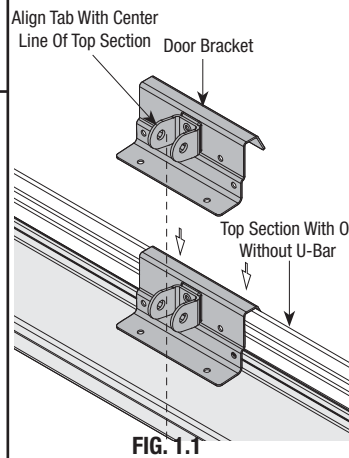
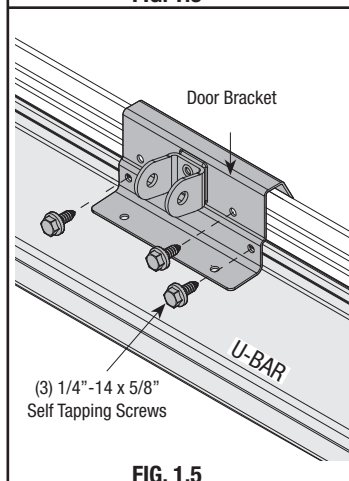
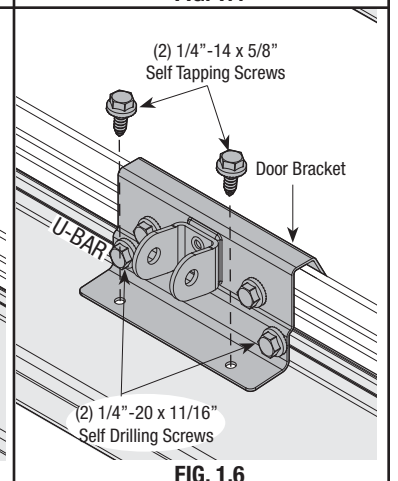

FIG. 1.1
FIG. 1.5
FIG. 1.6
Locate the center of the top section and seat the door bracket on male part of the top section. The door bracket must be centered and positioned on top section so it bridges the transition point of the section thickness, as shown in FIG. 1.1 and 1.2. Install (2) #12 x 1/2" phillips head screws on the opposite side of door bracket, as shown in FIG. 1.3. If initially supplied u-bar is on the door, clamp door bracket to u-bar, as shown in FIG. 1.4. First attach (3) 1/4" - 14 x 5/8" self-tapping screws to the door bracket, as shown in FIG. 1.5. Then attach (2) 1/4" - 14 x 5/8" self-tapping screws to the door bracket, as shown in FIG. 1.6. Remove vice clamps.
**NOTE:** If you have a 9100 door, you can use two of the 1/4" - 20 x 11/16" self-drilling screws used to attach the u-bar instead of the 1/4" - 14 x 5/8" self-tapping screws when attaching door bracket to u-bar, as shown in FIG. 1.6.